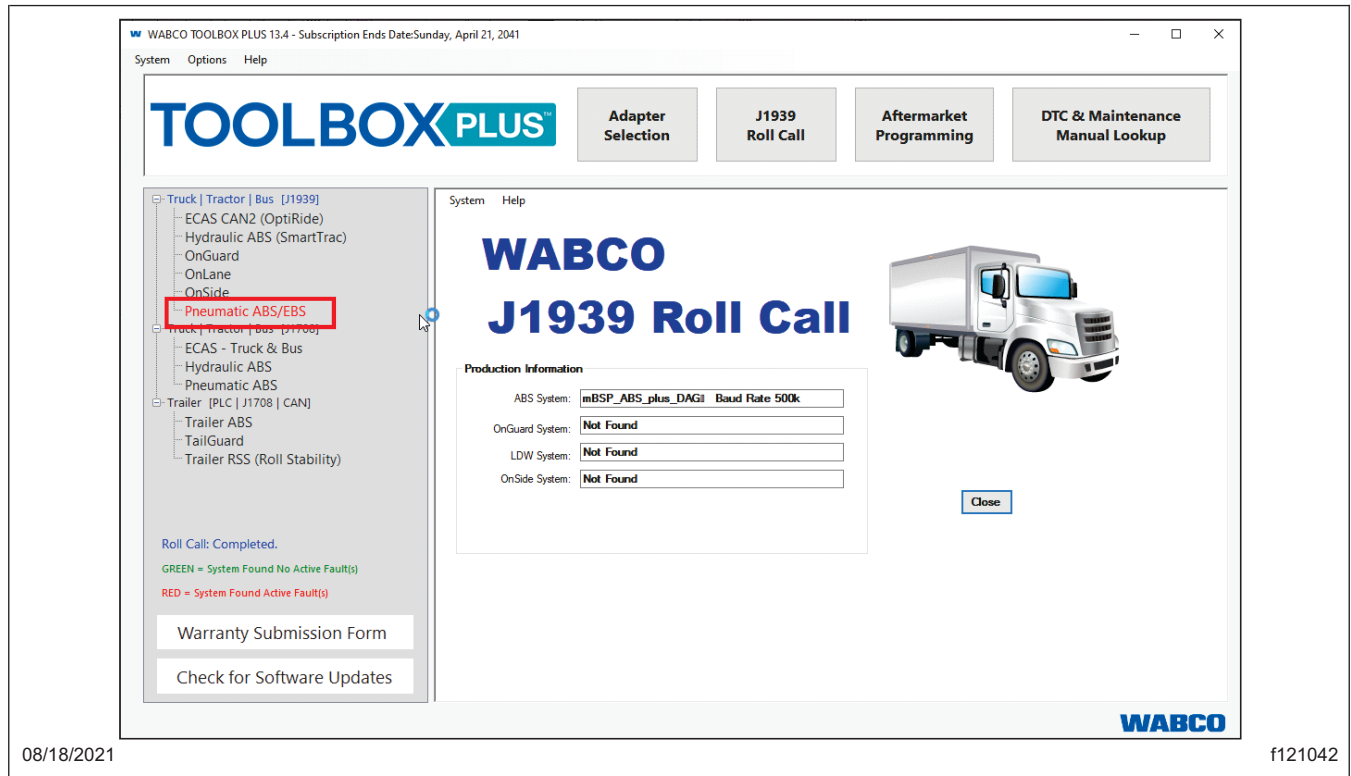

Fig. 32, WABCO TOOLBOX Options
19. Save a parameter file from the ECU as proof that the parameter update was successfully completed, and add it to the vehicle repair order. This can be done in WABCO Toolbox. Launch the Toolbox software and select 'Pneumatic ABS/EBS.' See Fig. 32.